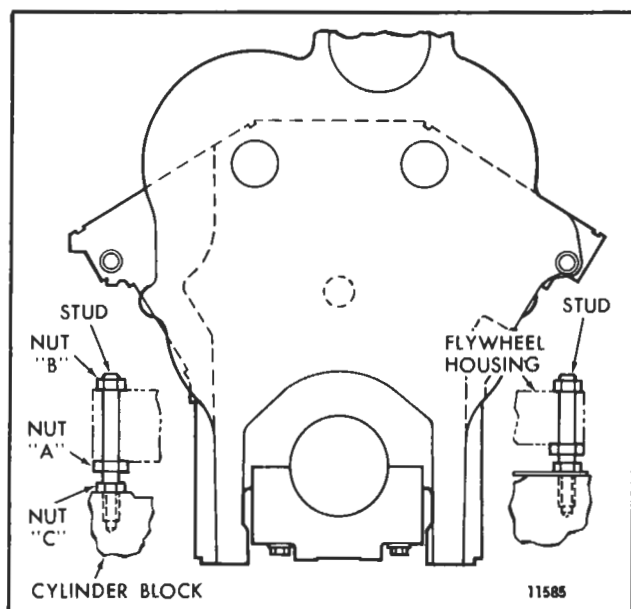

Fig. 7 - Location of Reinforced Flywheel Housing Support Studs
1. Thread jam nuts "A" and "C" on the studs as shown in Fig. 7. Thread the longer stud into the left bank side of the cylinder block and the shorter stud into the right bank through the hole in the rear end plate. Tighten the studs.